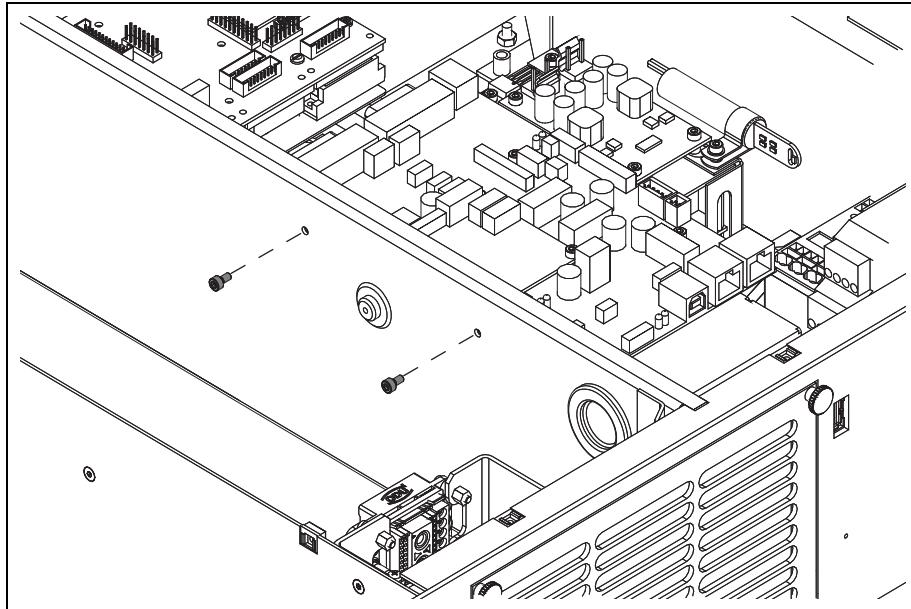

Figure 3.66 Power supply units -G1 and -G2 – 1
4. Unscrew the fastening screws from the LSC (see figure 3.66).